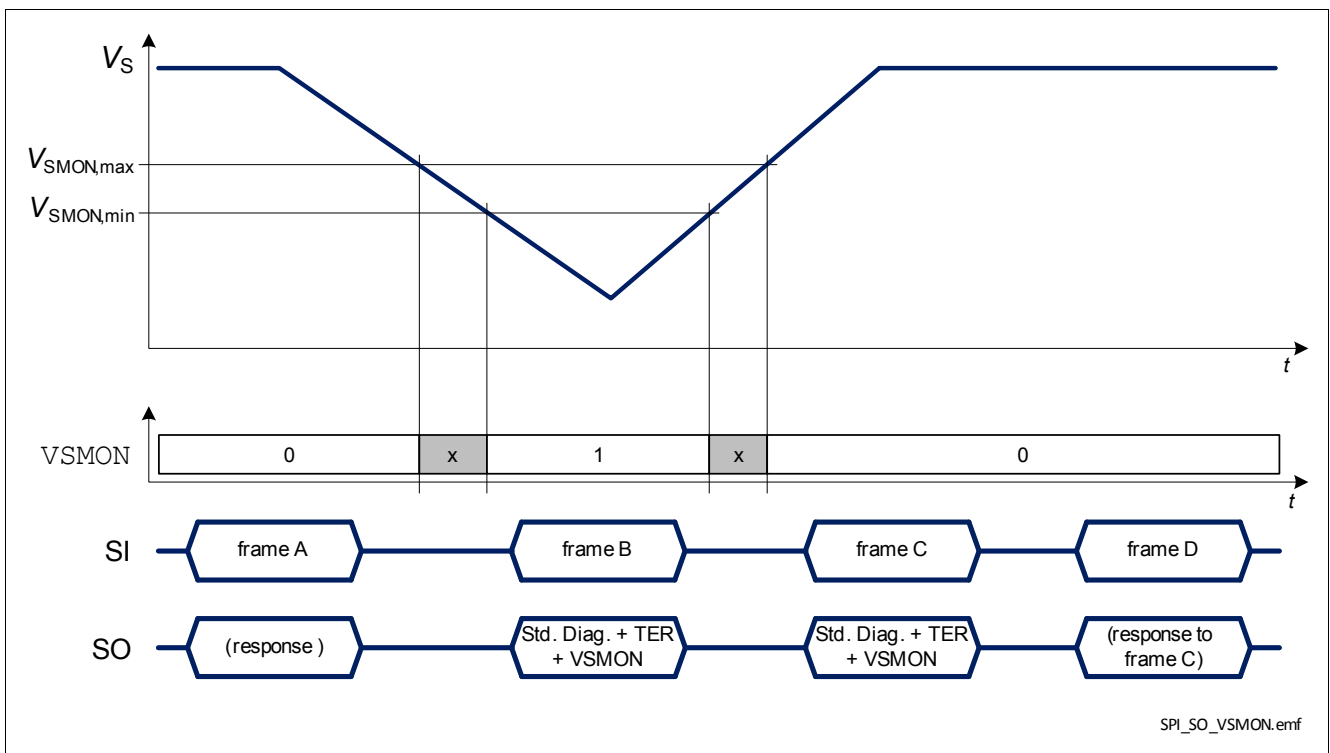

Figure 34 BTS54040-LBE response in case of a negative battery voltage transient
- when $V_S < V_{SMON}$ and $\text{DCR.MUX} \neq 111_B$, as shown in Figure 34